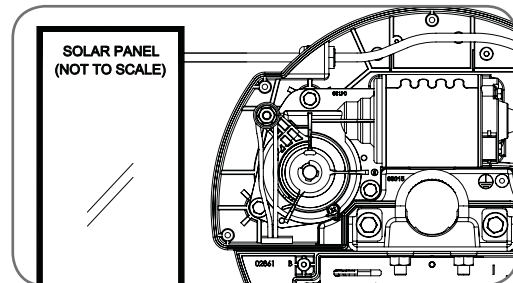

Fig 22
3. Remove the mains power cable, then fit a rubber gland to its hole in the chassis. Feed the Solar Panel's wires through this gland (Fig. 22).